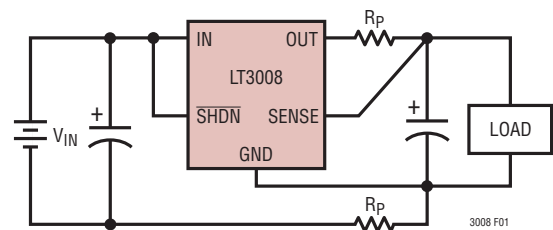

Figure 1. Kelvin Sense Connection
**SENSE (Pin 7/Pin 1):** Sense. For fixed voltage versions of the LT3008 (LT3008-1.2, LT3008-1.5, LT3008-1.8, LT3008-2.5, LT3008-3.3, LT3008-5), the SENSE pin is the input to the error amplifier. Optimum regulation is obtained at the point where the SENSE pin is connected to the OUT pin of the regulator. In critical applications, small voltage drops are caused by the resistance ( $R_P$ ) of PC traces between the regulator and the load. These may be eliminated by connecting the SENSE pin to the output at the load as shown in Figure 1 (Kelvin Sense Connection). Note that the voltage drop across the external PC traces add to the dropout voltage of the regulator. The SENSE pin bias current is 1 $\mu$ A at the nominal rated output voltage. The SENSE pin can be pulled below ground (as in a dual supply system where the regulator load is returned to a negative supply) and still allow the device to start and operate.